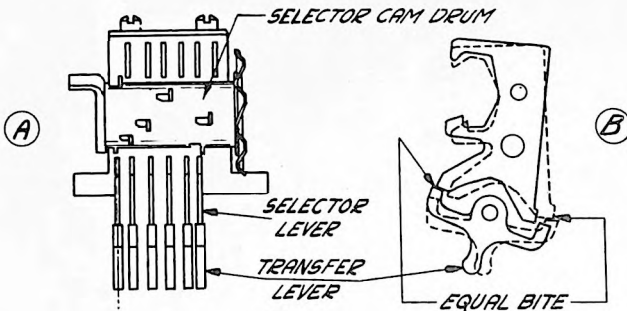

Fig. 7
19. TRANSFER LEVER BEARING-BRACKET POSITION (Figure 7)
- 19.2 B. the main shaft until the selector cam stop arm is resting against the stop lug. Place all selector levers in the marking position (down). Raise the transfer bracket and check the bite that the transfer levers have on the selector levers. Then set the selector levers in the spacing position (up). Raise the transfer bracket and check the bite on the spacing side. Now shift the bracket forward or backward so that the bite on the spacing side is equal to the bite on the marking side (Figure 7). Tighten bracket clamping screws. Recheck adjustment "A".